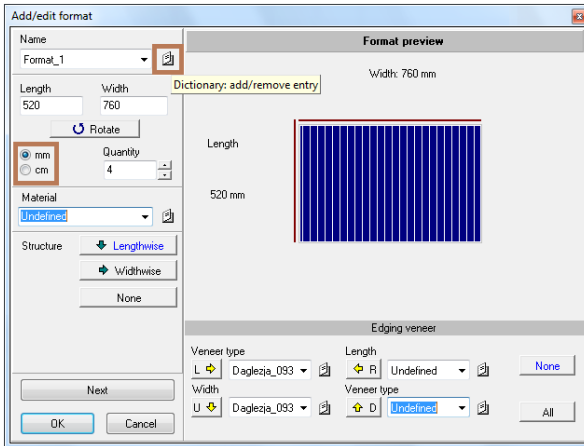

Fig. 51 – window for adding and editing formats
To add a new format click the  Add format button. A new window will open (Fig. 51 on the next page). The same window opens after editing format ( Edit format button). The first option allows you to enter data for a new format, set its dimensions, material etc. The second option enables to make changes in previous settings for the particular format.
- **dimensions** – width and length of the format in millimeters or centimeters (you can switch between these two units – Fig. 51 on the next page). The change of dimensions results in automatic change of the format preview in the right part of the window. Dimensions can be switched if necessary, using the  Rotate button.